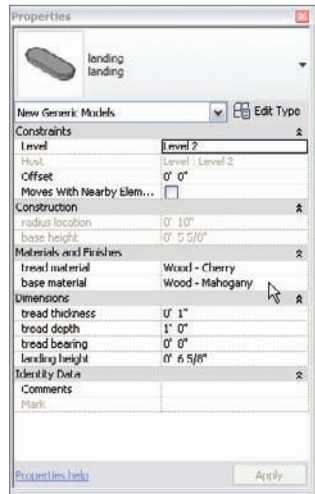

FIGURE 10.71 Changing the landing material to match the theme of the staircase
9. Change Base Material to Wood - Mahogany and click OK (see Figure 10.71).